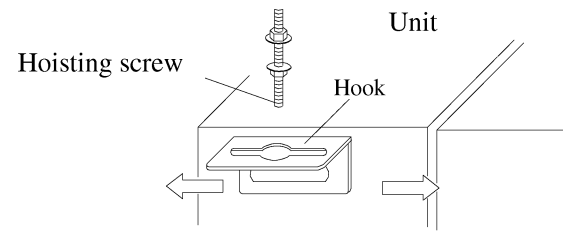

Fig.16
2. Install the hook on the unit, as shown in fig.16.